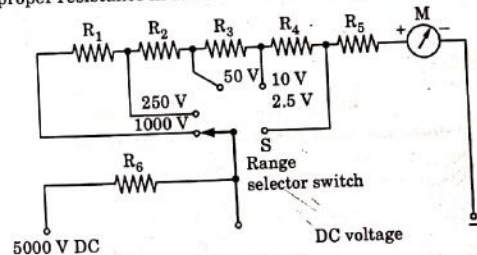

Fig. 4.7.1.
1. The Fig. 4.7.1 shows the arrangement used in multimeter to measure the DC voltages.